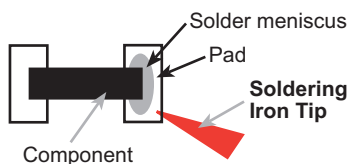

Figure 4. Use Soldering Iron to Heat Pad Where Shown
3. Use tweezers to position the component on the pads. Melt the solder on the bumped pad by heating only the pad with the soldering iron, as shown in Figure 4. It is important to heat only the pad to avoid pushing the surface-mounted component. Let the component settle on the pad.